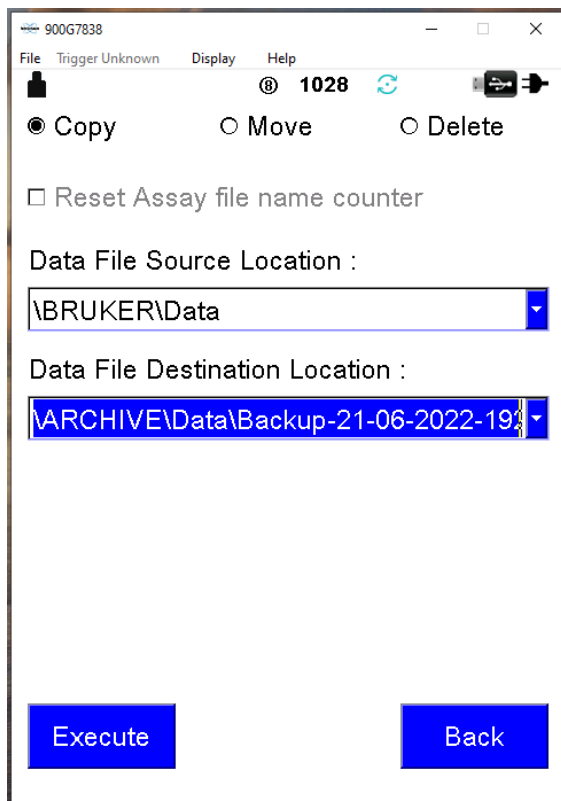

Figure 8. Backup Data.
3. Save to **Archive** instead of **USB** by changing the following (Figure 8).
Your Data File Destination Location should look like Figure 8.